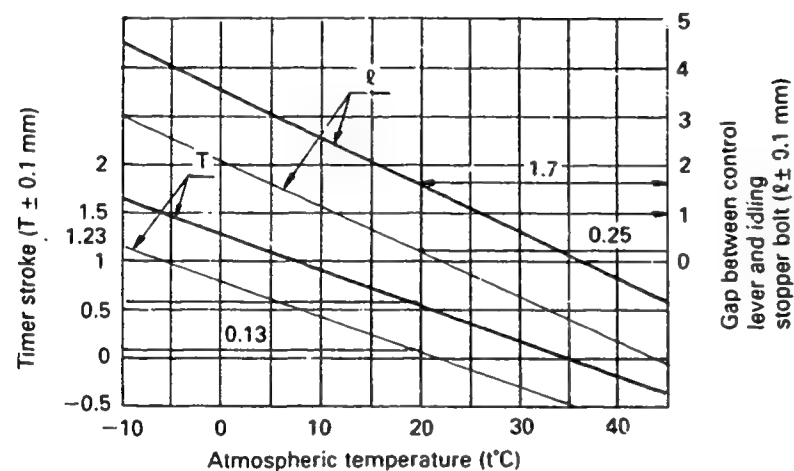

Fig. 2
1. Calculate the timer stroke from Fig. 2 according to the atmospheric temperature at the time of adjustment.
Formula for calculating Fig. 2
1. Calculate the block gauge dimension $l \pm 0.05$ mm from Fig. 2 according to the atmospheric temperature at the time of adjustment.
2. Insert the block gauge (thickness gauge) selected in Step (1) above between the bracket and the idling stopper bolt.